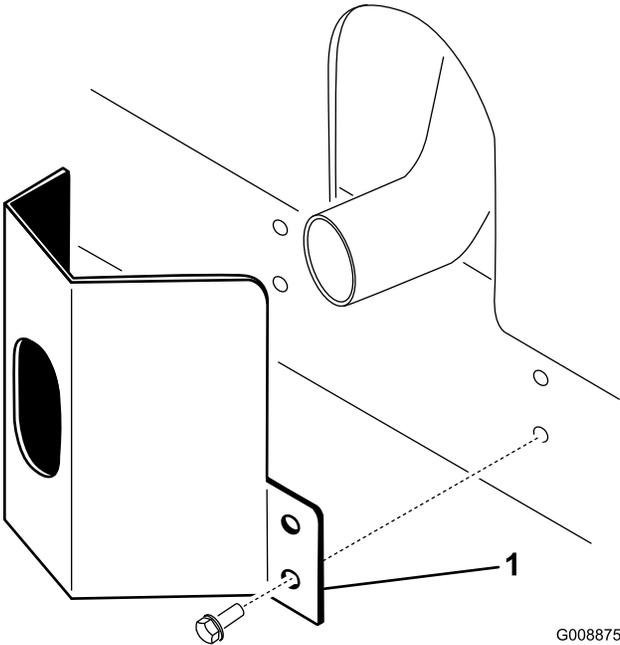

Figure 36
1. Position the exhaust guard around the muffler while aligning the mounting holes with the holes in the frame (Figure 36).
2. Secure the exhaust guard to the frame with 4 self-tapping screws (Figure 36).